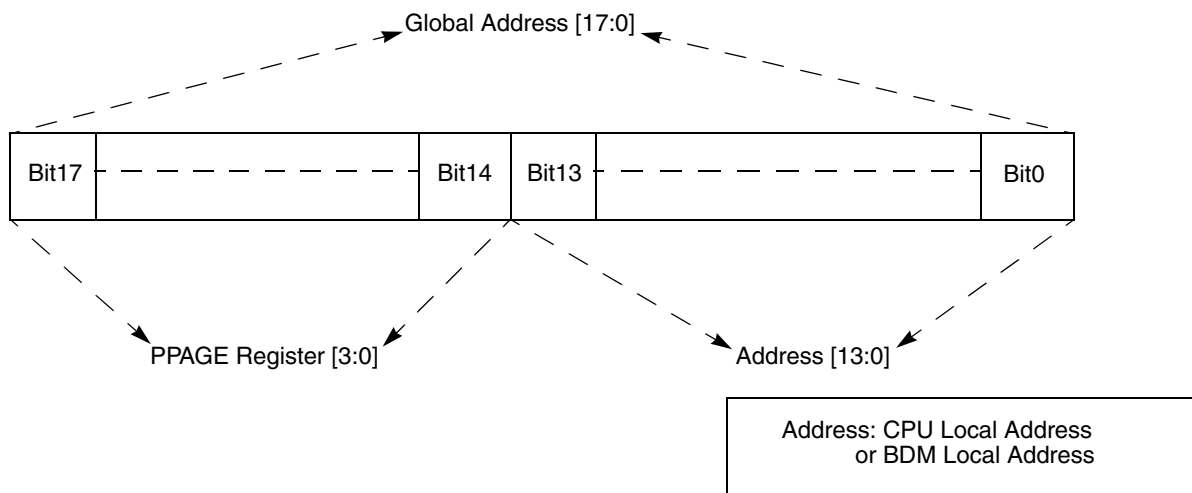
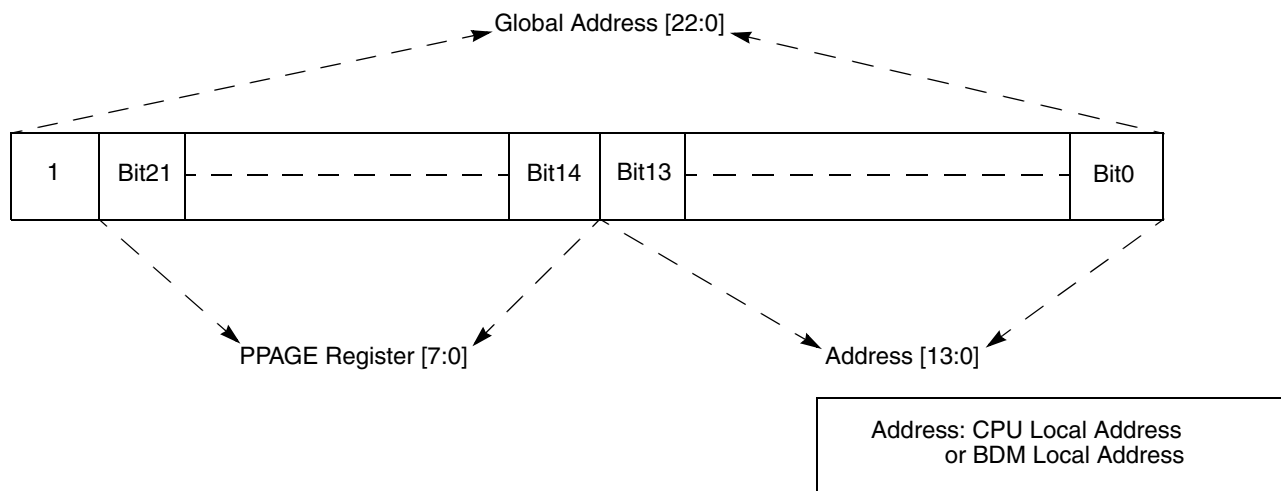

Figure 3. MC9S12P PPAGE to Global Addressing
Figure 4. MC9S12XS PPAGE to Global Addressing
- The relationship between the PPAGE addresses and global addresses (to get the global address take the PPAGE and append the lower fourteen bits of the local address) is compatible on the MC9S12P and the MC9S12XS, although the MC9S12XS has an additional global map offset or bias for the P-flash region of 0x40_0000. In other words, PPAGE 00 starts at global address 0x40_0000 on the MC9S12XS and at 0x00_0000 on the MC9S12P. This is primarily a consideration for flash programming routines, as the memory controller commands work with global map addresses. Figure 3 shows MC9S12P PPAGE to global addressing and Figure 4 the same for MC9S12XS.